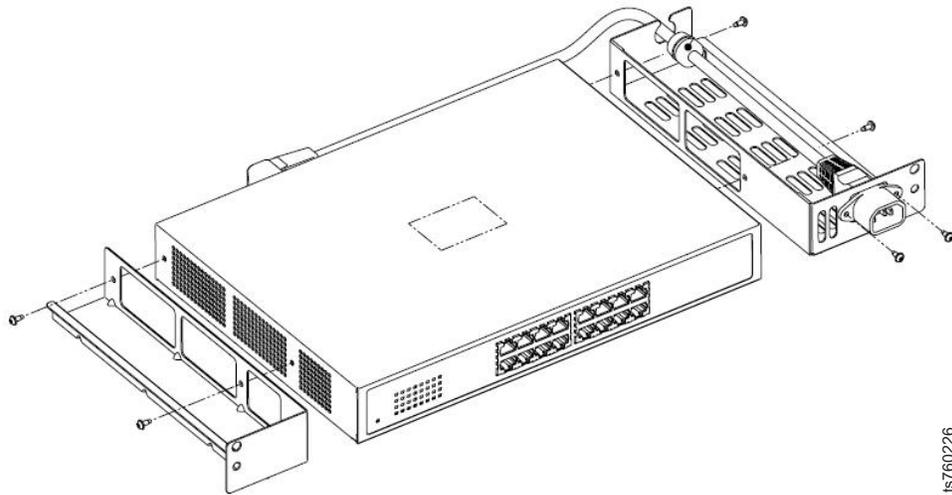

Figure 10. Attaching the mounting brackets and power cord
- a. Attach the mounting brackets to the short-sides of the Ethernet switch, making sure to align the perforated fan vents on the switch with the cut-out areas on the brackets. See Figure 10.